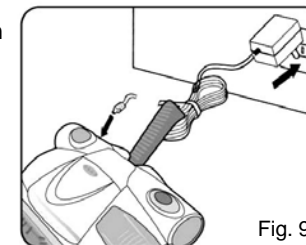

Fig. 9
1. Connect the charger plug to the charging jack or hole on the back of the sweeper. Plug the the charging adapter into the wall outlet. (120V., 60Hz.) Use only TechWorld Charger AD-1215-UL8. (Fig. 9)